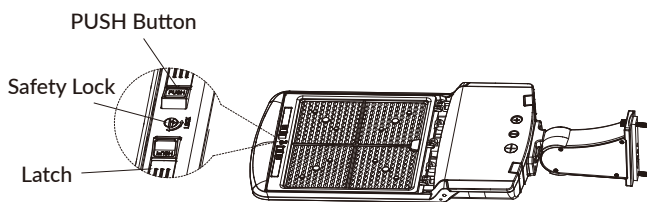

Figure 1
- To disengage the safety lock and latches: Use a flathead screwdriver, rotate the safety lock to the "unlock" position (arrow pointing upward). Then press both "PUSH" buttons simultaneously. The two latches on the front of the lens frame will pop up (Figure 1).